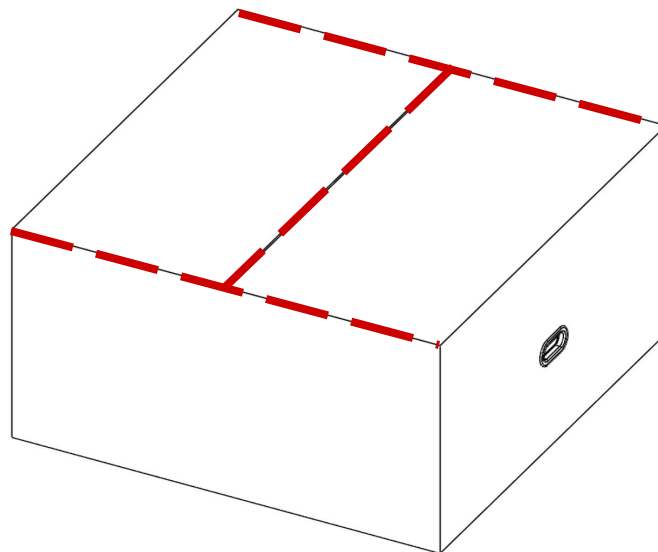

Fig. 4
1. Connect the VGA cable onto the port on the back of the scan head (see Fig 4).